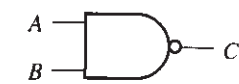

Fig. 2
- Figure 2 shows a NAND gate with two inputs, A and B , and one output, C . Four such gates are contained in a 74LS00 chip, the pin assignment of which is shown in Fig. 3. Connect this chip to a 5 V power supply, as shown in the figure. Connect a voltmeter to the output of a NAND gate on the chip. In the following steps, you will be asked to apply an adjustable voltage at the input(s) of this gate and to observe and plot the behavior of the output voltage (at C in Fig. 2) as the input voltage is changed from 0 to 5 V. **Make sure that the input voltages do not exceed V_{CC} in any case.**